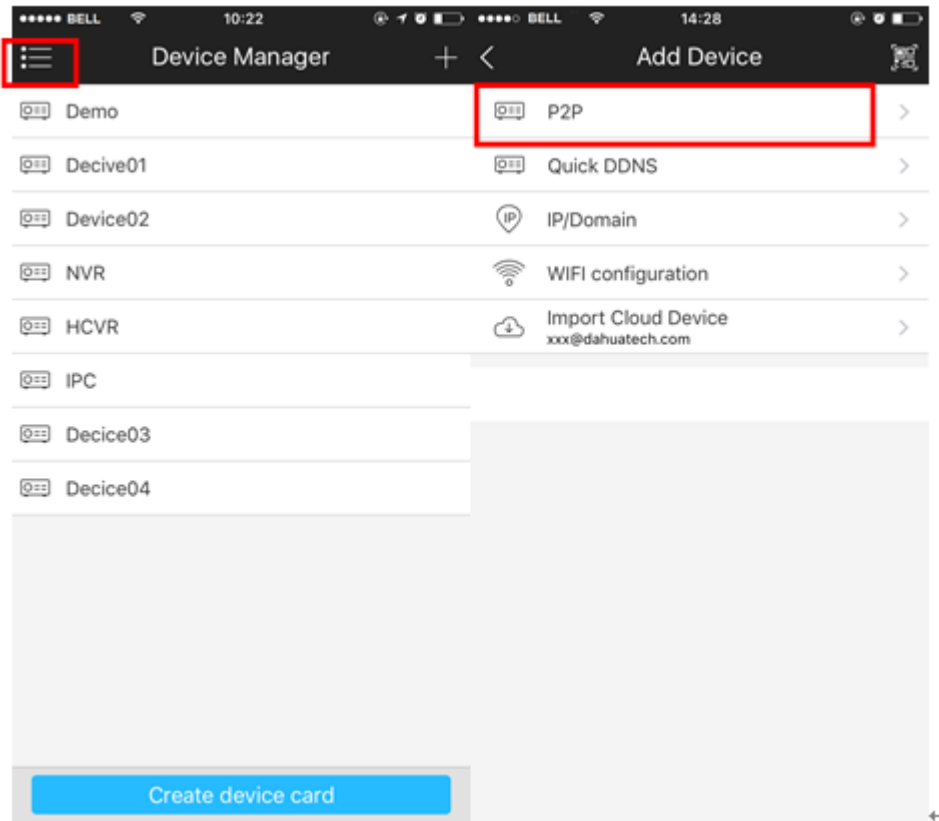

Figure 6-3
2) Tap P2P to add the device. See Figure 6-3.